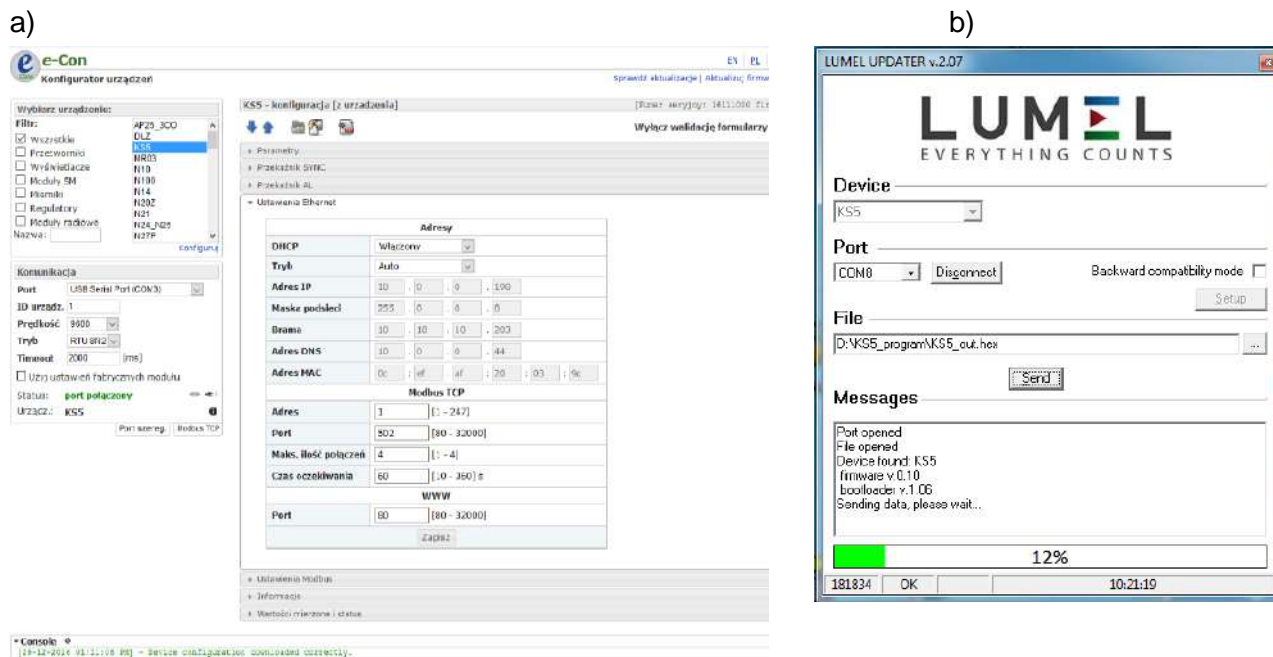

Fig.22. View of program window: a) eCon, b) firmware upgrade
After starting eCon the serial port, speed, mode and meter address should be set in the settings. Then select KS5 meter and click *Configure* To read all the settings, click the down arrow, then the floppy icon to save the settings to a file (to restore them later). After selecting *Update firmware* (in the upper right corner of the screen) *Lumel Updater* (LU) window will open - Fig. 22 b. Press *Connect*. *Messages* information window contains info about the progress of the upgrade process. When the port is properly opened the display shows: *Port opened*. There are two ways to enter the upgrade mode: remotely through the LU (based on settings in eCon - address, mode, speed, COM port) and by turning on the meter power by pushing the button  (when entering the bootloader mode with the button, communication parameters: speed 9600, RTU8N2, address 1). The display will show boot with bootloader version, and LU program will show the message *Device found* and the name and program version of the connected device. Press the "... " button and select the meter update file. When the file is properly opened the following message is displayed *File opened*. Press *Send* button. After successful upgrade the monitor switches to normal operation, and the information window shows *Done* and the upgrade duration. After closing the LU window, go to *Service Parameters*, select *Set Meter Defaults* and press the *Restore* button. Then press the folder icon to open the previously saved settings file and press the up arrow to save the settings in the meter. The current software version can also be checked by reading the greeting